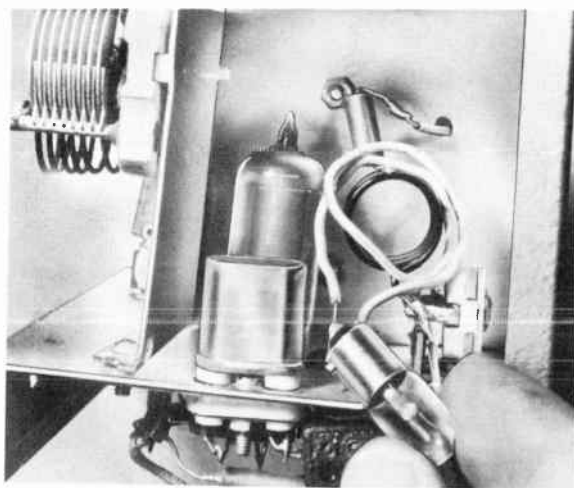

Fig. 710. Loop light placed over oscillator coil should glow as keying switch is depressed.
Step 1 is to leave this new B-plus lead disconnected. Connect the others as you did for the one-tube transmitter and be sure to have your test meter in the B-plus lead to the battery. Now tune the oscillator just as you did before, looking for that setting on the gradual dip side just a little higher than minimum. Place your loop light over the oscillator coil as shown in Fig. 710. It should glow when you depress the keying switch. Adjust the oscillator tuning capacitor until it does. Now hang the light over the coil so you can monitor this stage and be sure it's working, before we switch our test meter to the final B-plus lead.